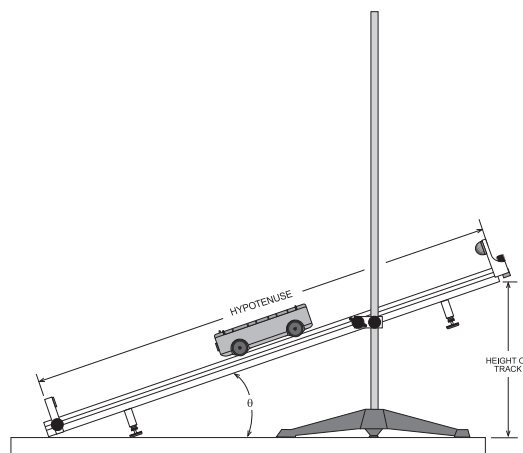

Figure 3.2 Equipment Setup
1. Set up the track as shown in Figure 3.2, raising the end of the track without an end stop about 10 cm.